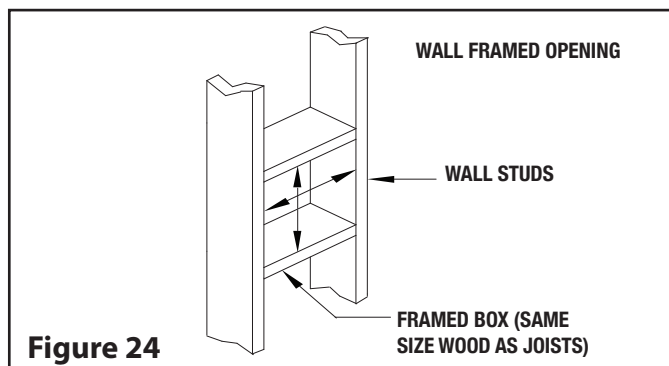

Figure 24
Step 2: Normally wall studs are placed at 16" centers. With the hole midway between them, the support will fasten to these studs and thus ensure a strong attachment to the wall. (see Figure 24).
Step 3: Wood walls: Place the exterior half of the Insulated Wall Thimble (WTI) in the opening from the outside. Nail in place using (4) 2" nails or 1" screws. Make sure the insulation pad is cut to the desired length according to the wall thickness. Wrap the insulation pad around the tube of the interior half of the Insulated Wall Thimble. Place the metal sheet around the insulation pad and join the locking tabs together. Place the interior half of the Insulated Wall Thimble inside the exterior half of the Insulated Wall Thimble.